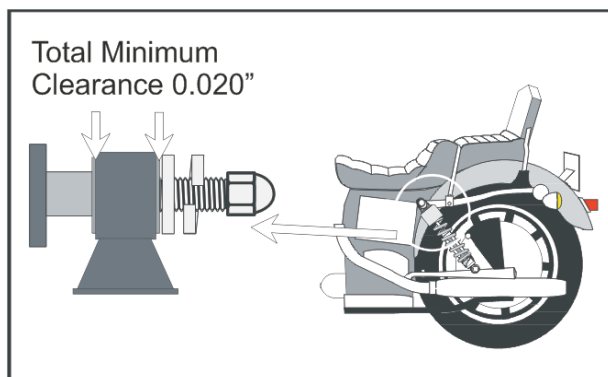

Fig 2
4. Reinstall any accessories removed in accord with their mounting instructions. Make sure accessories do not interfere with the shocks throughout their full travel. If any accessories bolt to the shock mounting points, a careful inspection must be made to insure that they do not bind the shocks in any way. The shock eyes should have a minimum clearance of .02" to insure the eyes are not binding. See Fig 2.